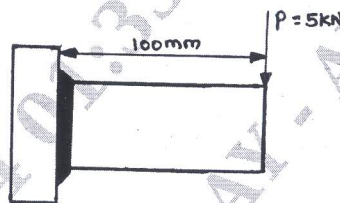

Fig Q8(b)
b. A solid circular shaft 25mm in diameter is welded to a support by means of a fillet weld as shown in Fig Q8(b). Determine the leg dimensions of the weld if the permissible shear stress is 95N/mm^2